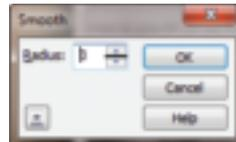

Figure 4
Examine **Figure 4** closely: The edges are a bit rough and there are places where you may have missed masking, so...
1. Choose **MASK/Mask Outline>Smooth** (Figure 4). This will smooth the overall edges of the mask. Set your **Radius** to 3 and **OK**.